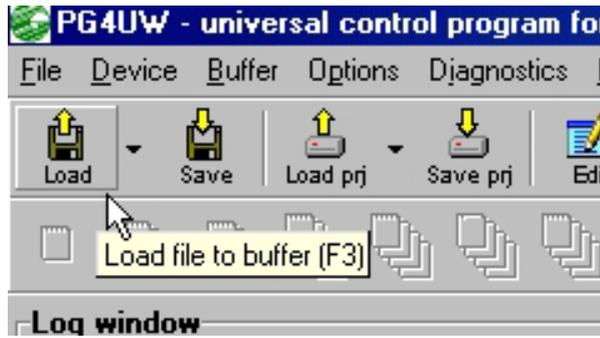

FIGURE 13: LOAD OF FILE TO PROGRAM WITH PG4UW
F) If the data that must be written into memories are stored in a separate file on disk, open the window of menu File | Load file and use it to load the file as shown in figure 13.